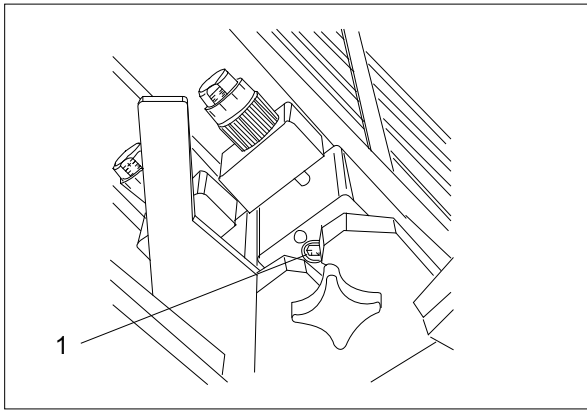

Fig. 57 Adjustment of fold plate position
1. Loosen the Allen screw (Fig. 57/1) at the operator side of the last fold plate by turning it counter-clockwise.
5. Secure the oblique position of the fold plate by tightening the Allen screw (Fig. 57/1).